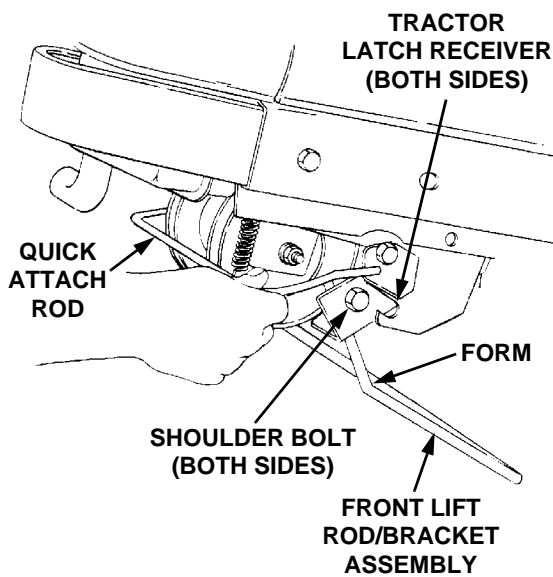
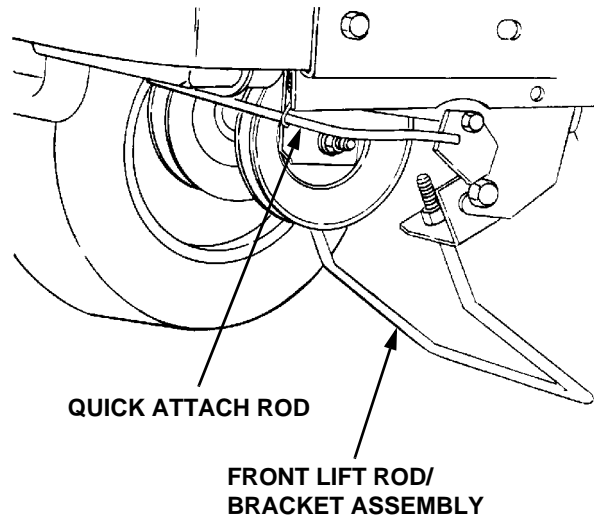

Figure 52
Figure 53
4. Refer to Figure 52 to ensure the correct orientation of the front lift rod/bracket assembly [form (bend) in sides of rod point downward]. From the front of the tractor, push downward and hold the tractor quick-attach rod. Slide the shoulder bolts on each side of the front lift rod/bracket assembly fully into the left and right tractor latch receivers. Release the tractor quick-attach rod to capture the front lift rod/bracket assembly in the tractor latch receivers (Refer to Figure 53).